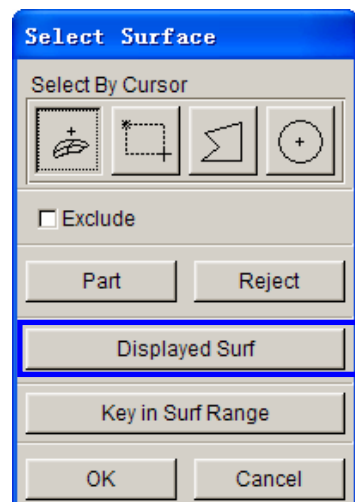

Figure 5.14 Select surface
7. Click Displayed **Surf** in SURFACE MESH dialog box. See Figure 5.14.